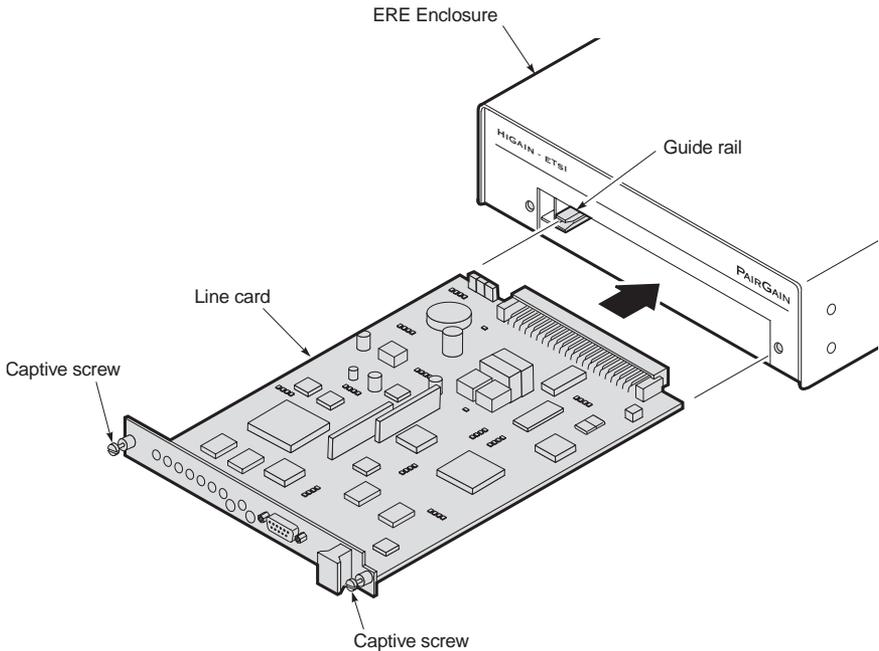

Figure 5. *Installing the UTU-814 into the ERE-811 Remote Enclosure*
- 1 Align the card with the guide rails at the left and right sides of the enclosure opening (Figure 5).